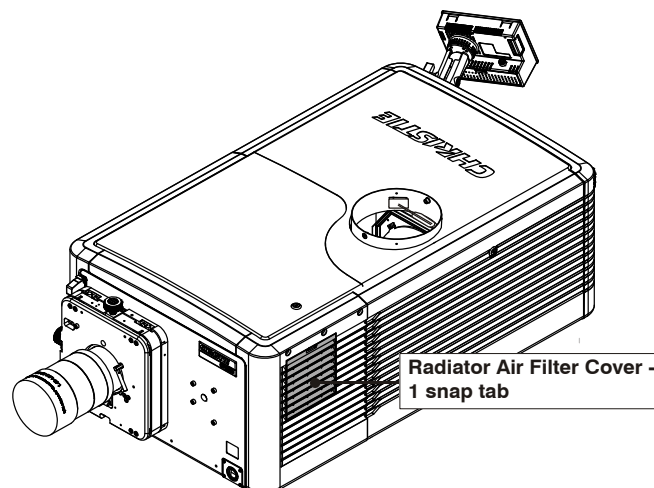

Figure 5-13 Radiator Air Filter Cover
1. Push down on the snap tab at the top of the cover. **(Figure 5-13)**